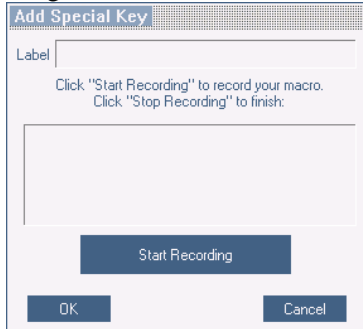

Figure 33 Add Special Key Dialog box
1. From the Special Key Manager box press **Record New**. The Add Special Key Dialog box appears, see Figure 33.